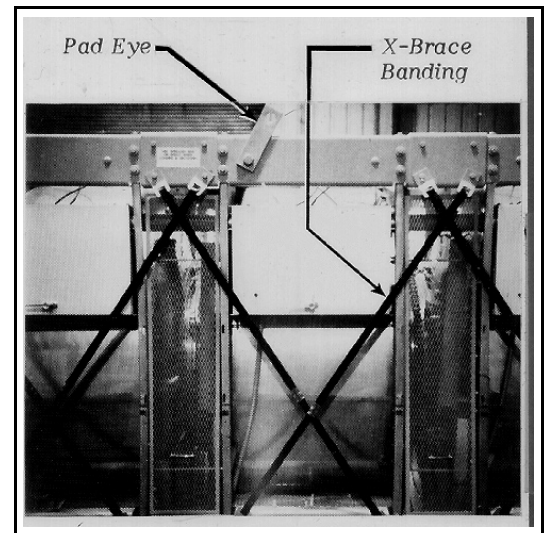

FIGURE 1 (MSIND410AE)
1. Pad eyes are provided for lifting the Continuous Batch Washer (CBW) from a transportation trailer (see FIGURE 1).
4. Leave X-brace banding material in place during the entire unloading and installation procedures (see FIGURE 1).